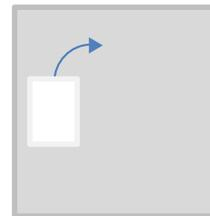

Figure 2a
3. Place LVE to the left side of the paper, facing away from the tester (Figure 2a)